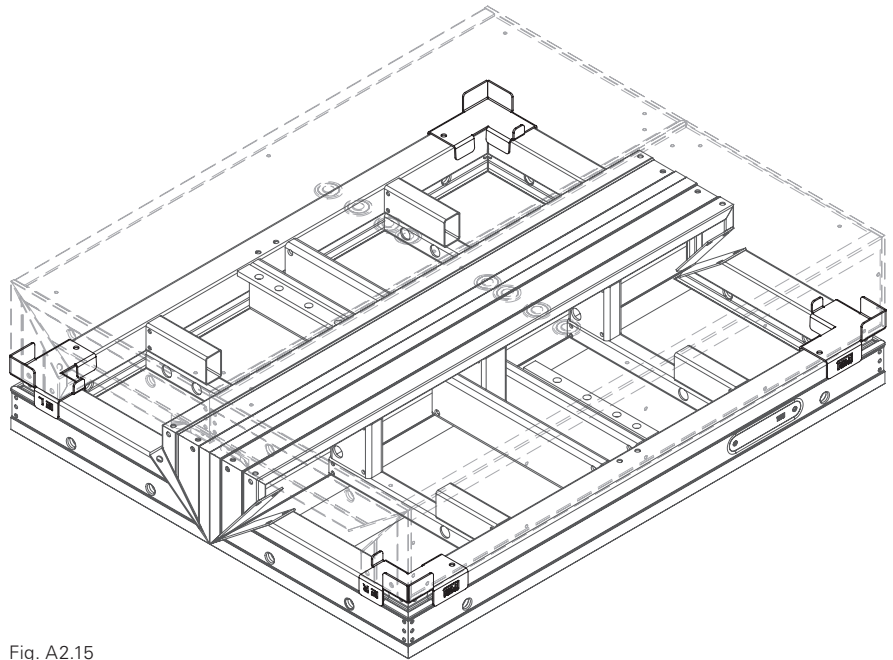

Fig. A2.15
- four inside corners. Only install Stacking Devices MXI (9 + 10) at the corners. (Fig. A2.15)